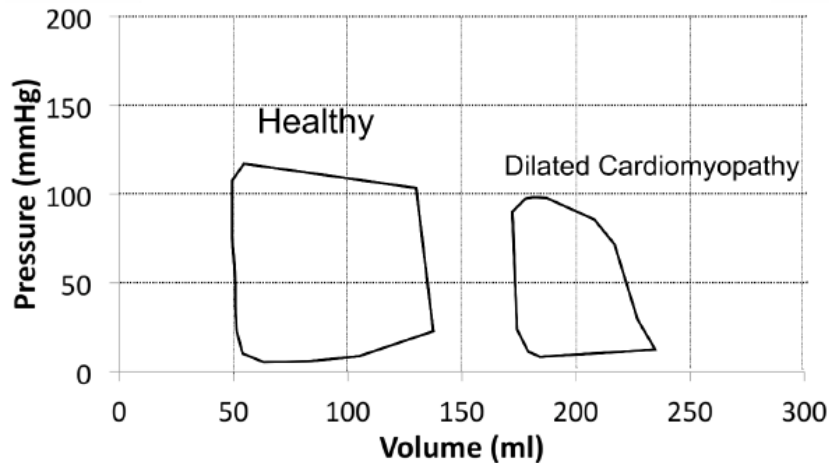

Figure 1: PV-loop of a healthy human heart next to the heart of a person suffering from dilated cardiomyopathy.
8. The yield stress of two people is given: one (A) with 0.14 dyne/cm^2 , the other (B) with 0.06 dyne/cm^2 . The values are measured for a tube of 10 cm length, 6 mm diameter and a pressure difference of 50 dynes/cm^2 . Predict Q_A/Q_B . (The formulas of ξ and $F(\xi)$ are given). (27.01.2016)
9. In the diagram given in figure 1, you can see the PV-loop of a healthy human heart, compared to a heart from a person suffering from dilated cardiomyopathy. This disease leads to an enlarged heart, which can lead to heart failure. (28.01.2021)